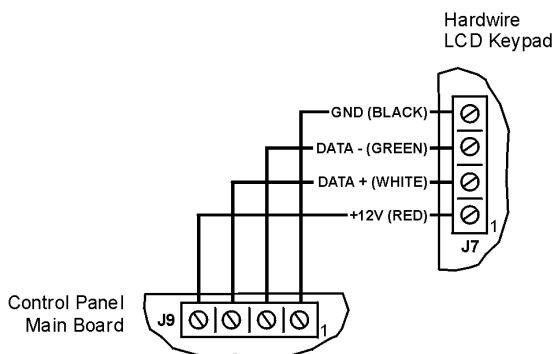

Figure 2.8: Connections for Hardwire LCD Keypad
6. Connect the terminal block on the keypad to the appropriate terminal block on the control panel's main board as shown in Figure 2.8.